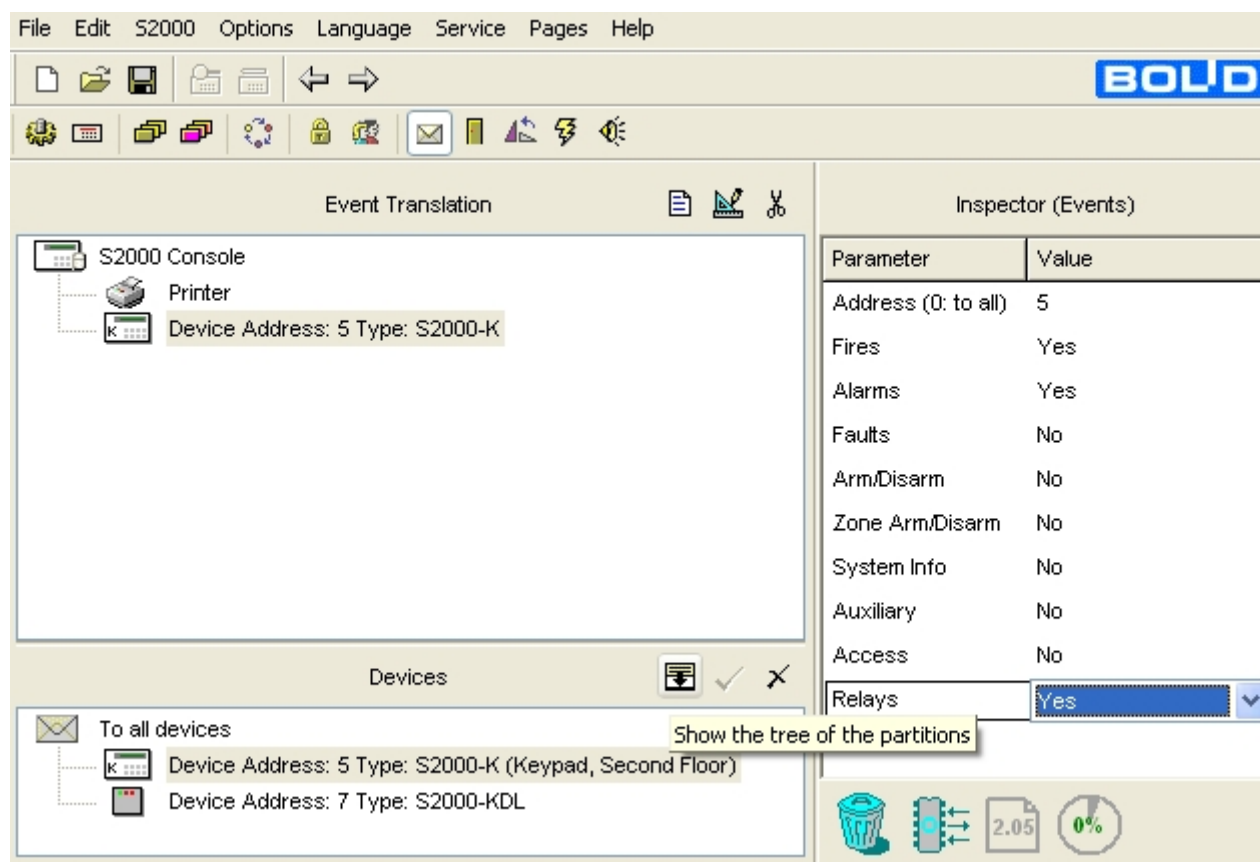

Figure 12
4. Switch the bottom window of the page to the partition display mode by clicking  (see Figure 12) or selecting the relevant menu command. The list of system partitions will appear in the bottom window.